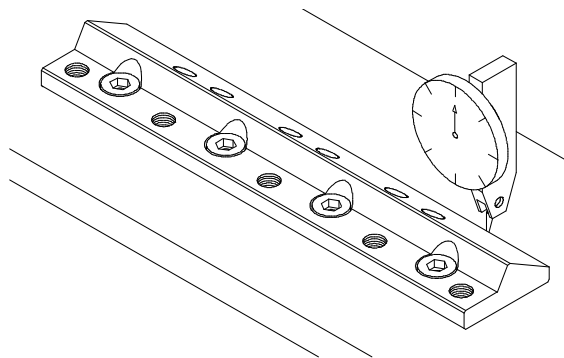

Figure 3
STEP 4. INDICATING THE RAIL PARALLEL TO THE MACHINE. (A). Attach a dial indicator to the z-column of the Wire EDM machine. **(B).** Adjust the indicator needle to the back of the rail as shown in Fig. 3. **(C).** Move the machine travel across the length of the rail. **(D).** Using a plastic or rubber hammer, tap the rail parallel over the length of the rail.